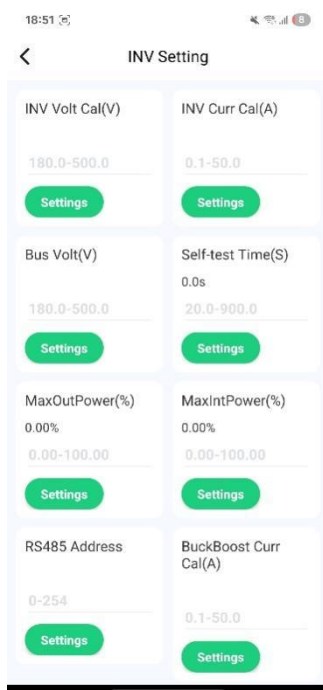

Fig. 4.20.5 Inverter Settings
1. In inverter settings, you can configure parameters including inverter voltage, inverter current, bus voltage, self-check time, maximum output power, maximum input power, GFCI current, reactive power, ten-minute AC voltage protection value, ten-minute AC voltage protection time, RS485 address, and more, as shown in Fig. 4.20.5.